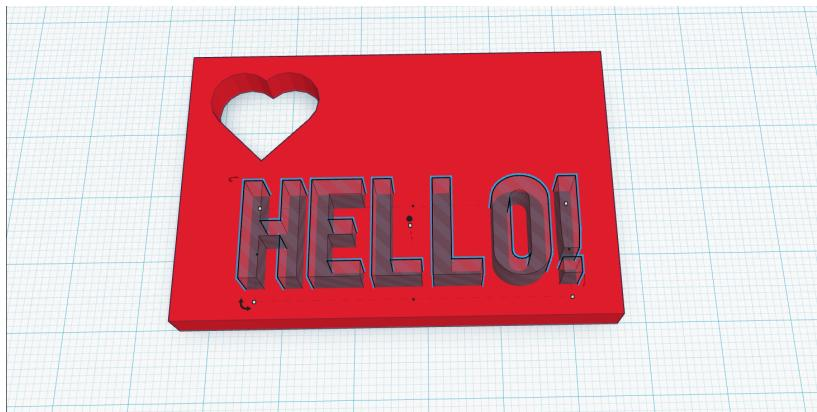

Figure 9-23. “Hello!” turned into a “hole” cutting tool
5. With the text “Hello!” still selected, use the Inspector window in the top right to turn the Text object into a “hole” as shown in Figure 9-23.